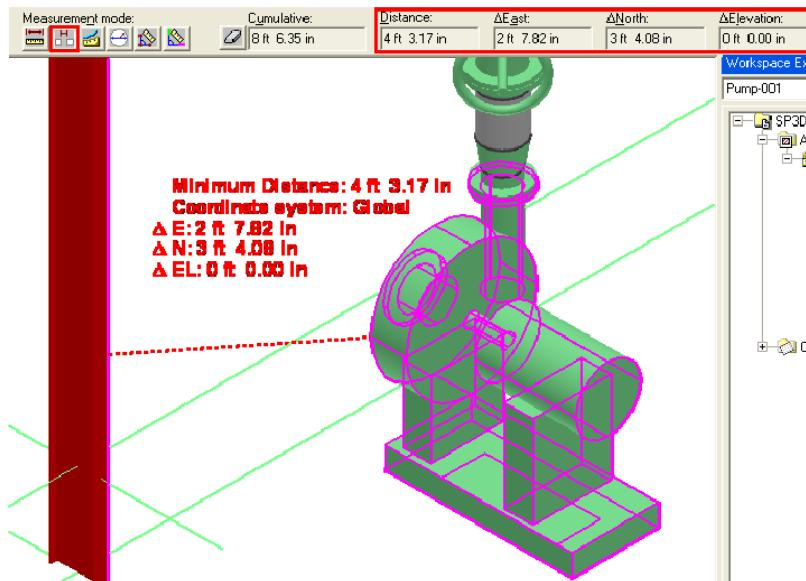

Figure 3:Minimum Distance Measured Between a Column and Pump
- **Measure Minimum Distance:** Use the **Measure Minimum Distance** command from the **Measurement** ribbon to measure the clearance between, for example, the pump and the column. Locate the pump and the column. The minimum distance between the displayed geometric aspects of the two objects and the distance along the active coordinate system axes will be displayed on the **Measurement** ribbon as well as on the graphic view, as shown in Figure 3.